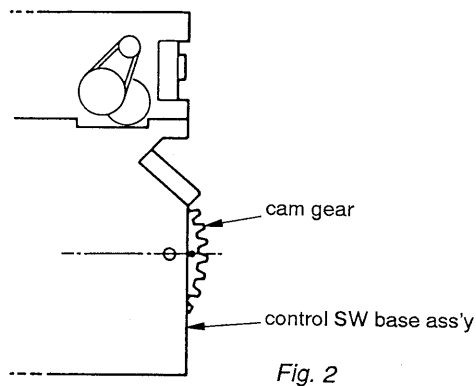

Fig. 2
1. Set the • mark of the cam gear and the hole on the control SW base ass'y as shown on figure 2.